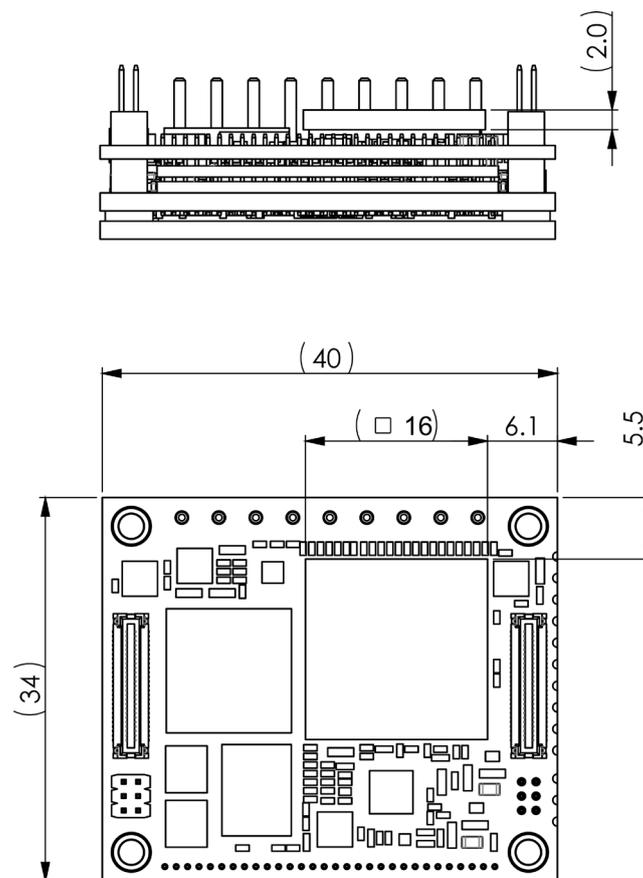

Figure 2: Aligning the thermal pad
4. Align the pad. See Figure 2.